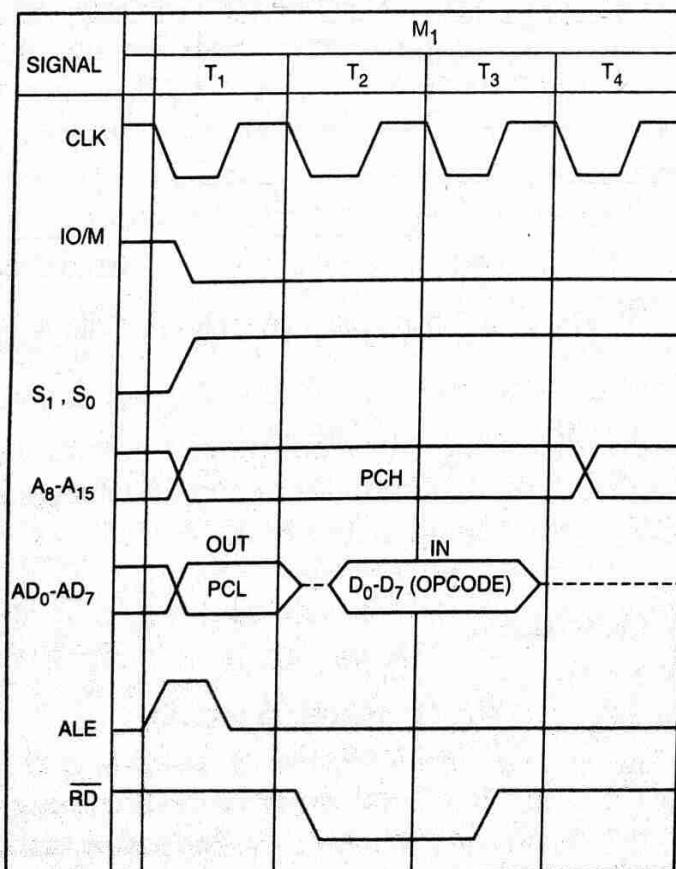
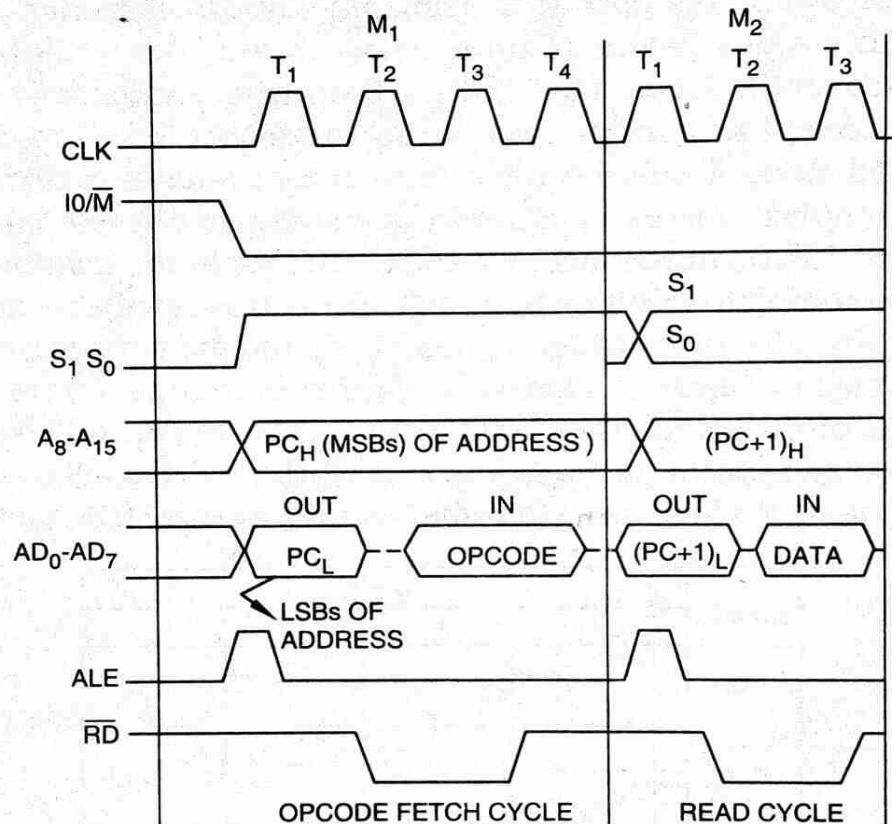
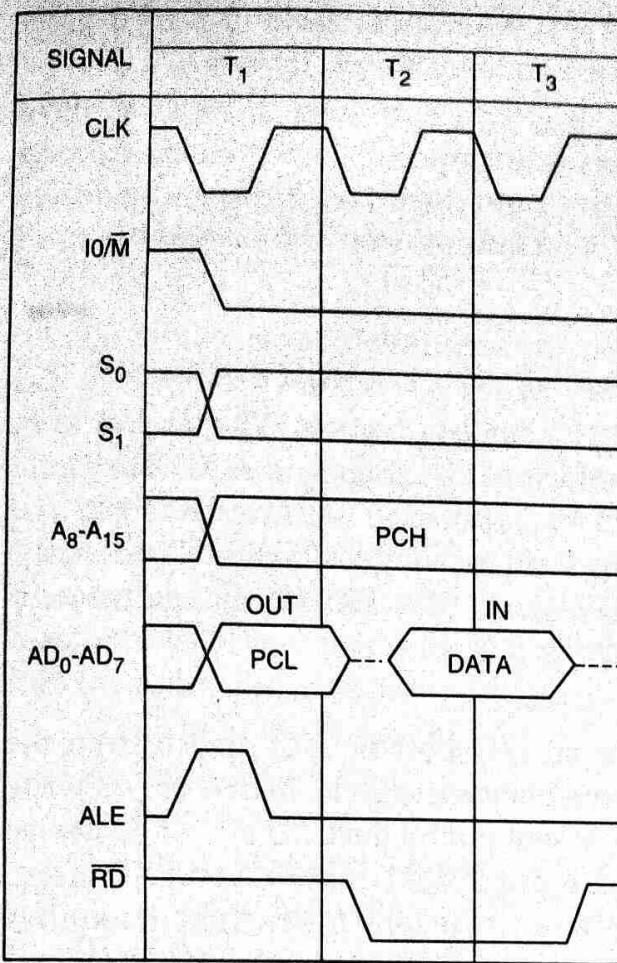

Fig. 3.9 Timing Diagram for Opcode Fetch Operation
Fig. 3.10 Timing Diagram for MVI r, Data
Fig. 3.11 Timing Diagram for Memory Read Operation
In a fetch cycle the microprocessor fetches the opcode of an instruction from the memory. Figures 3.9 shows the timing diagram for an opcode fetch cycle. T_1 , T_2 , T_3 , and T_4 are consecutive four clock cycles. The microprocessor issues a low IO/M signal to indicate that it wants to make communication with the memory. Again the microprocessor sends out high S_0 and S_1 signals to indicate that it is going to perform fetch operation.
If an instruction is one byte long, only one machine cycle as shown in Fig. 3.9, is required to fetch and execute the instruction. Examples of one byte long instructions are MOV, SUB, ADD, RAL, etc. As the operands are in the general purpose registers, the decoding of the operation code and its execution takes only one clock cycle, T_4 . If an instruction is two or three bytes long, it requires more machine cycles. The first machine cycle M_1 is for fetching the opcode from the memory. Subsequent machine cycles M_2, M_3 etc. are required either to read data or address from the memory or I/O devices or to write data into the memory or I/O devices. Figure 3.10 shows the timing diagram for a two byte instruction MVI r, data. The first machine cycle M_1 shows fetch cycle, and M_2 a data read cycle.
This instruction requires two machine cycles, M_1 and M_2 . The first machine cycle M_1 is to fetch the operation code 3E from the memory. The timing diagram for opcode fetch operation has already been shown in Fig. 3.9. The second machine cycle M_2 is for reading the data (05) from the memory as shown in Fig. 3.11. It is a memory read cycle. $I_{O/M}$ goes low indicating that the address is for memory. S_1 and S_0 are set to 1 and 0
shown in Fig. 3.11. In case of I/O device or I/O port the address is only 8-bits long and therefore, the address of I/O device is duplicated on both A and AD buses.